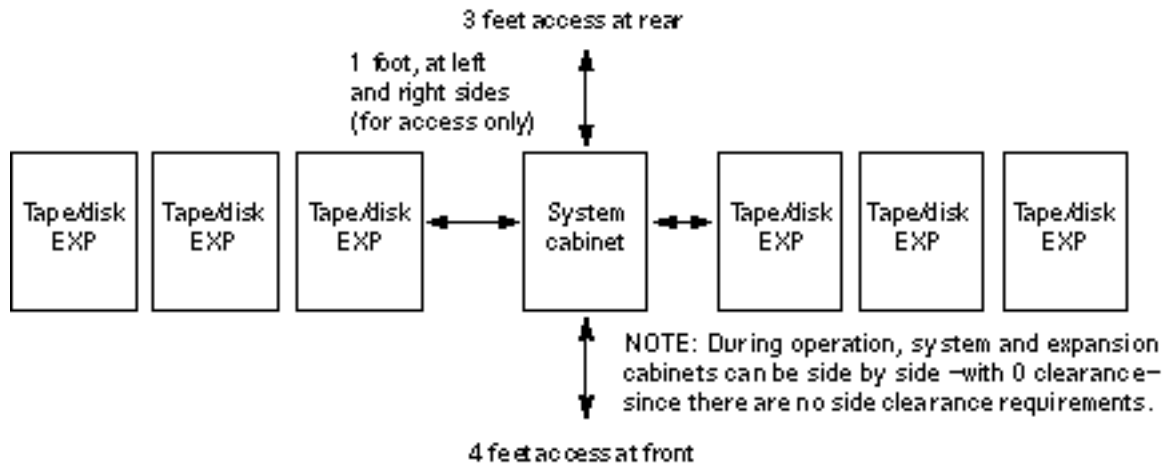

Figure 1-5 Cabinet Server Access Areas — Top View
- Server cabinets require approximately 4 feet (120 cm) of space in front and 3 feet (90 cm) in back (Figure 1-5) for access by service personnel.